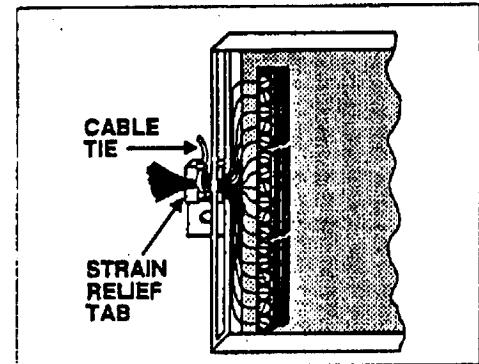

Figure 8: Secure the Cable Tie and Wires
3. Wrap the cable tie around the wires and firmly secure the tie to the Strain Relief Tab (see Figure 8).